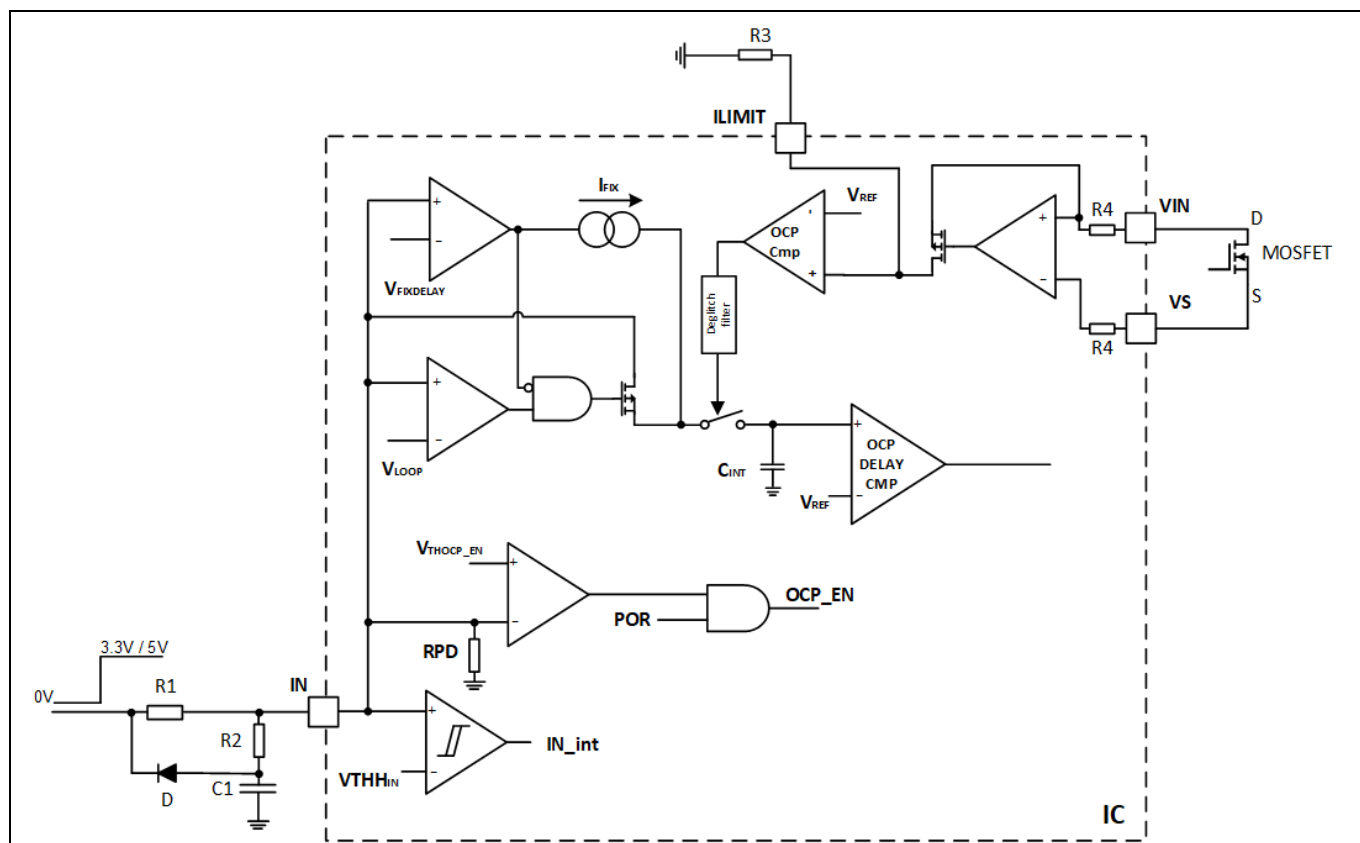

Figure 3 OCP setup
R_{PD} = IN pin pull-down resistor as shown in Figure 3
Where V_{REF} is 1.2 V and C_{INT} is a 1 nF internal capacitance shown in Figure 3. Blanking times 1 and 2 can be calculated as 1.72 and 0.19 ms, respectively, to provide a total blanking time of 1.91 ms in this example.
- External R3 as shown in Figure 3
- Number of the MOSFETs in parallel (N)
OCP is not triggered if the duration of OCP is shorter than the delay time. Therefore, any current spike that lasts less than the delay time does not trigger the OCP function. The delay time can be set with the external component R1 as shown in Figure 3 and its driver voltage with the following equation: